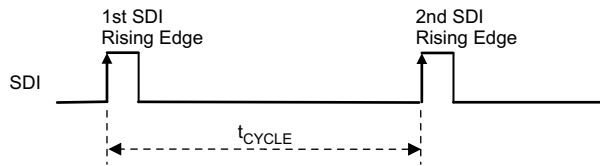
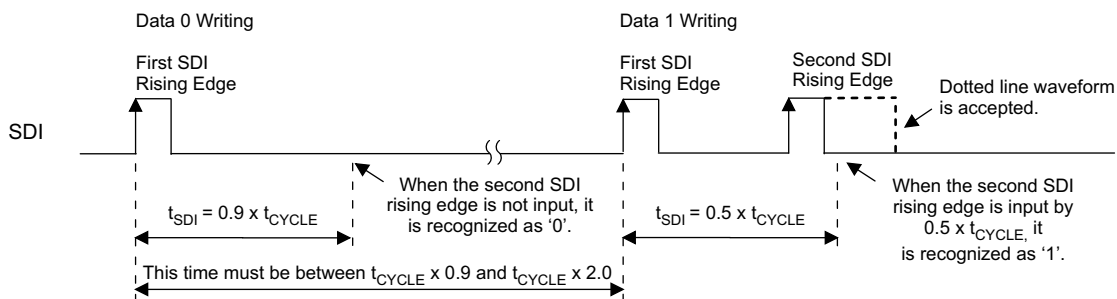

Figure 14. Data Transfer Rate (t_{CYCLE}) Measurement
Figure 15. Data '0' and '1' Write Operation
The TLC5973 measures the time between the first and second SDI rising edges either after the device is powered up or when the GS data latch sequence is executed (as described in the GS Data Latch Sequence \(GSLAT\) section) and the time is internally stored as t_{CYCLE} . t_{CYCLE} serves as a base time used to recognize one complete data write operation, a 48-bit data write operation, and a GS data write operation to the GS data latch. t_{CYCLE} can be set between $0.33 \mu s$ and $10 \mu s$ ($f_{CLK(SDI)} = 100 \text{ kHz}$ to 3000 kHz). In this sequence, two instances of data '0' are written to the LSB side of the 48-bit shift register. Figure 14 shows the t_{CYCLE} measurement timing.
When the second SDI rising edge is not input before $0.9 \times t_{CYCLE}$ elapses from the first SDI rising edge input, the data are recognized as '0'. When the second SDI rising edge is input before 50% of t_{CYCLE} elapses from the first SDI rising edge input, the data are recognized as '1'. This write sequence must be repeated 46 times after the t_{CYCLE} measurement sequence in order to send the write command to the higher 10-bit (3AAh) and 36-bit GS data. Figure 15 shows the data '0' and '1' write timing.
2. Write the 48-bit data packet (MSB-first) for the first device using t_{CYCLE} and the data write sequences illustrated in Figure 14 and Figure 15. The first 12 bits of the 48-bit data packet are used as the write command. The write command must be 3AAh (001110101010b); otherwise, the 36-bit GS data in the 48-bit shift register are not copied to the 36-bit GS data latch.